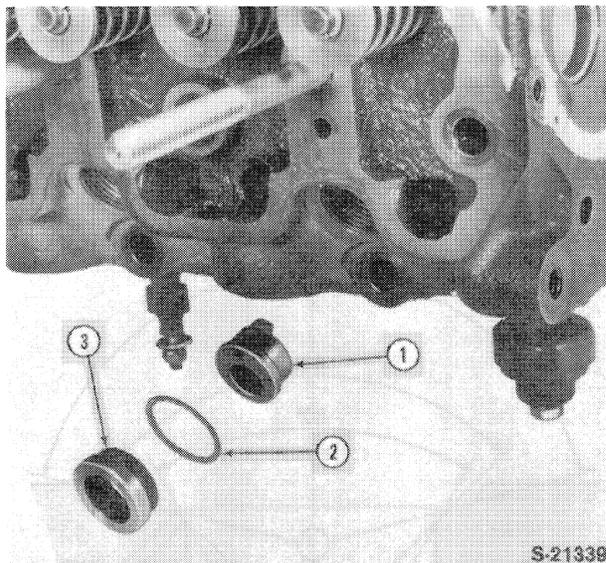

Figure 32
- If required, use a brass drift and gently tap the pre-combustion chamber from the bottom side of the head and remove the pre-combustion chamber, spacer and gasket ring from the top and discard, Figure 32.